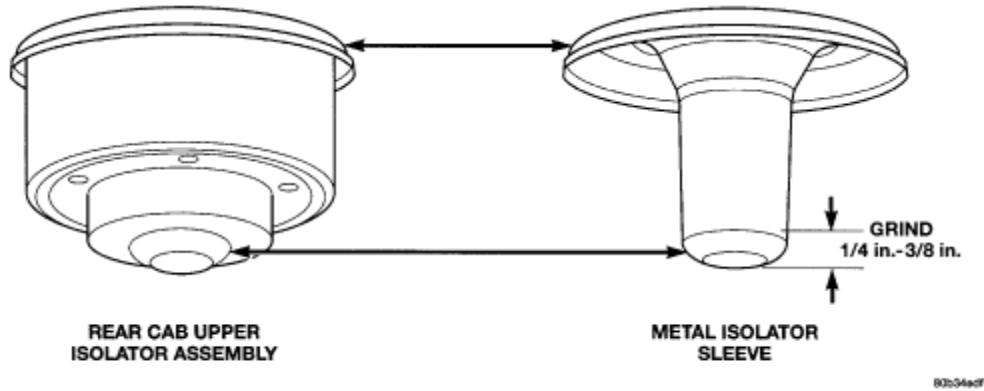

FIGURE 2 - Rear Cab Isolator
- Grind 1/4 in. to 3/8 in. off the metal sleeve of the rear cab upper isolator as shown in Figure 2. Perform this operation on both rear cab upper isolators.